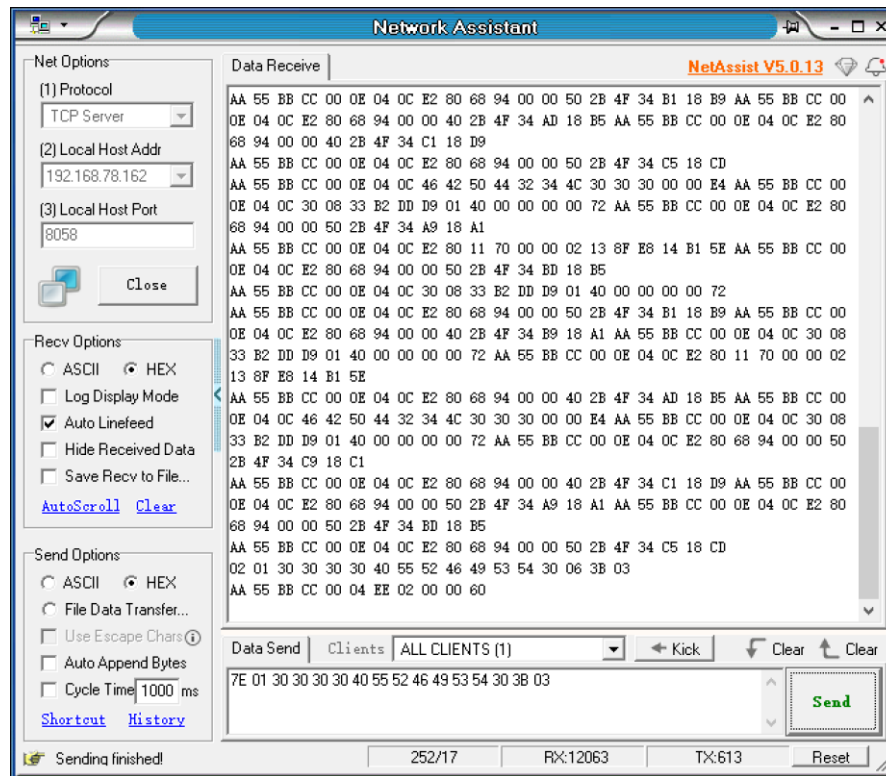

Figure 3-4
- (3) The host uses a network debugging tool as a TCP server, as shown in Figure 3-4. Set the host address and port of the network debugging tool according to the actual situation. Open it and wait for the URF device to connect successfully, then communication can proceed.